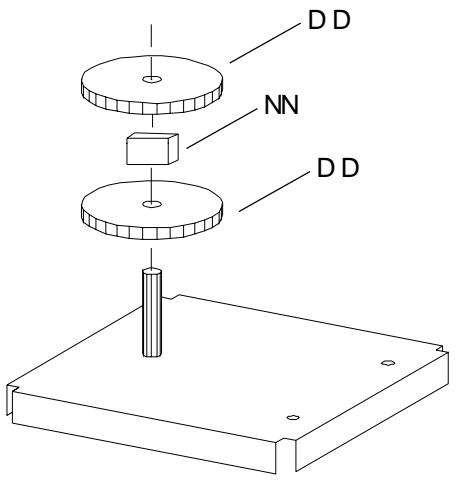

FIGURE 6
Lay the mouse pad mounting bracket down with the welded bolt facing up and slide on the following 1 big washers (DD), spacer (NN) and another washer (DD) as shown in **FIGURE 6**. Next slide on the mouse pad assembly, nylon washer (EE), steel washer (FF) and lock nut (GG) onto the welded bolt as shown in **FIGURE 7**. **TIGHTEN NUT TO SECURE ENTIRE CONNECTION.**